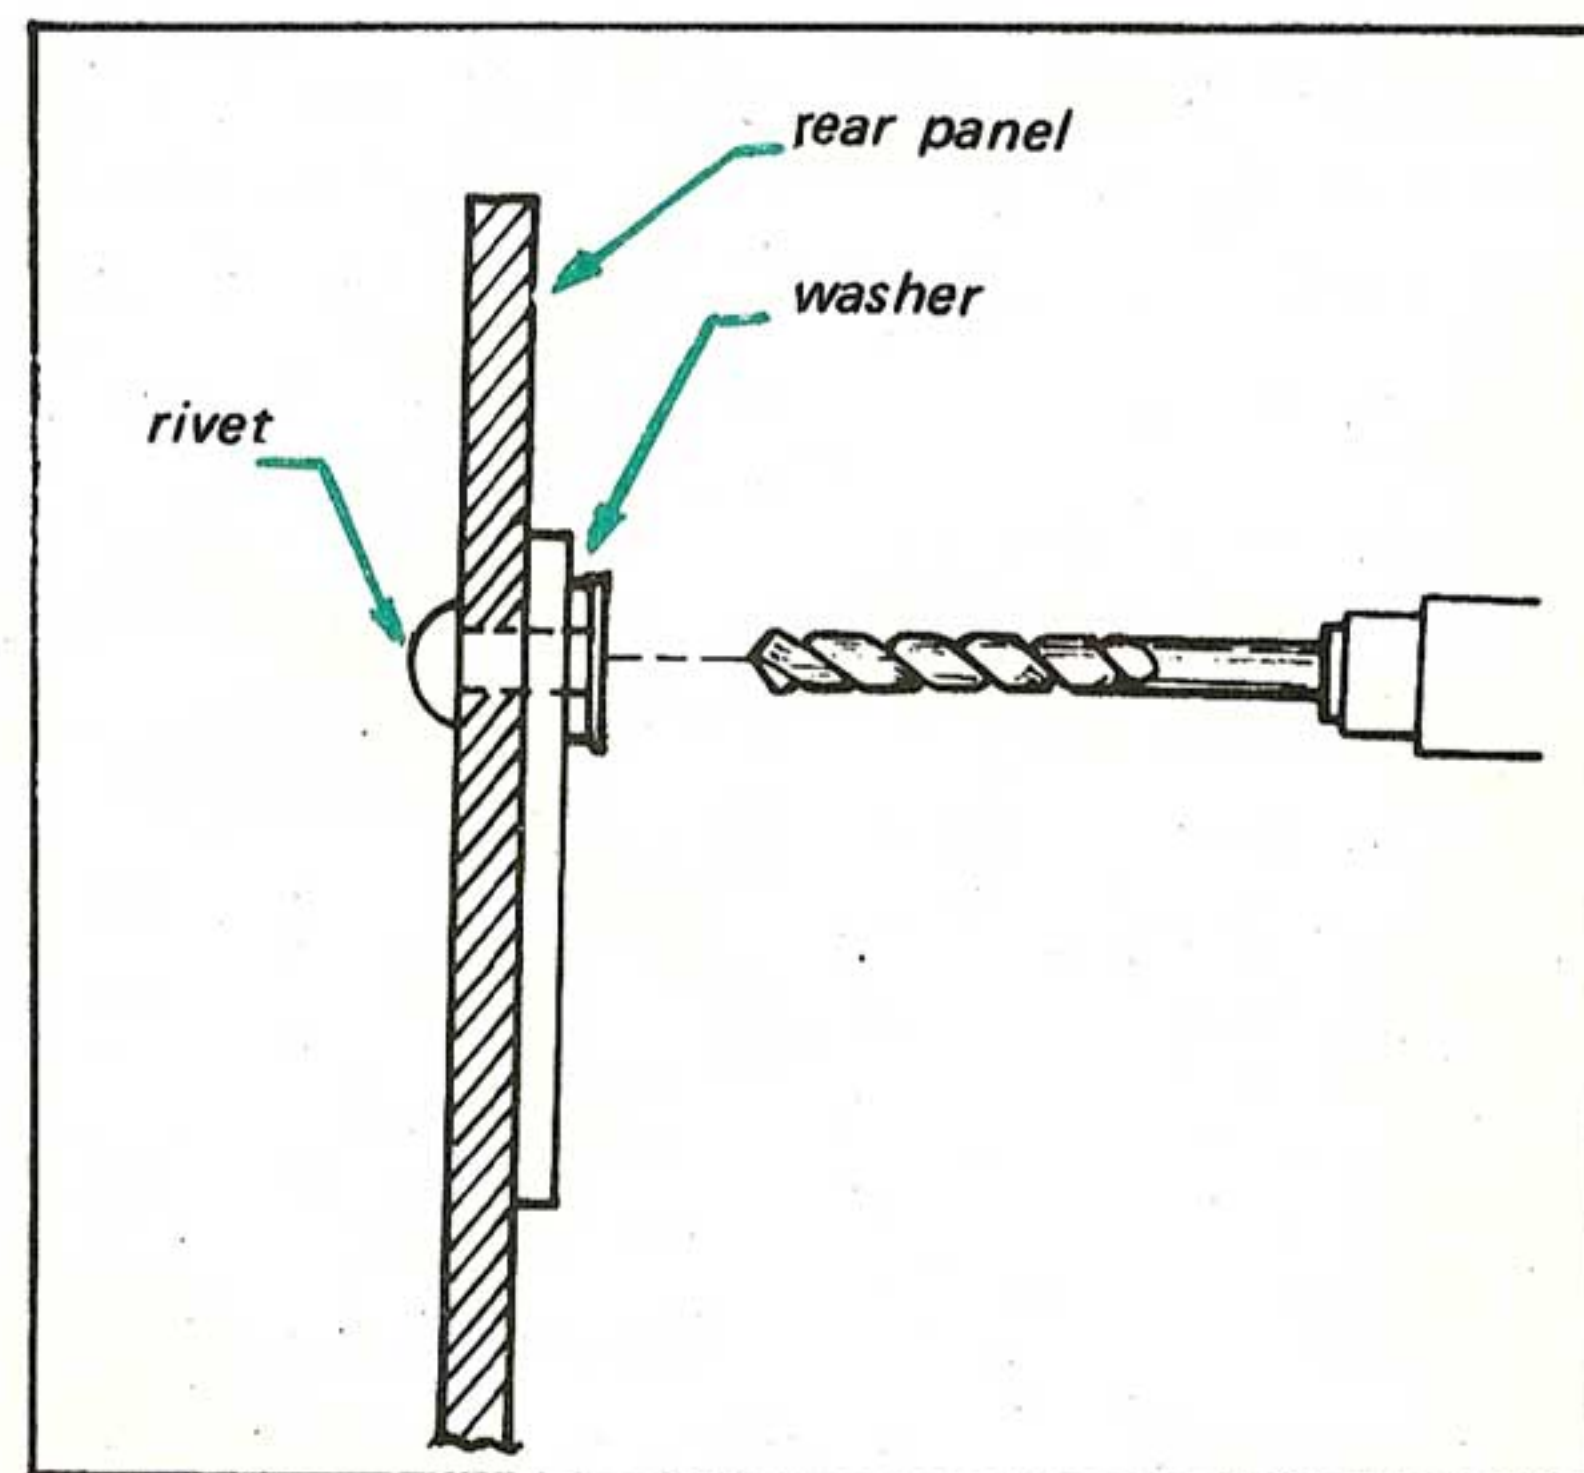

Fig. 2-10 Rivet replacement
- (a) Bore out the rivet using a drill bit slightly larger in diameter than the rivet. See Fig. 2-10.